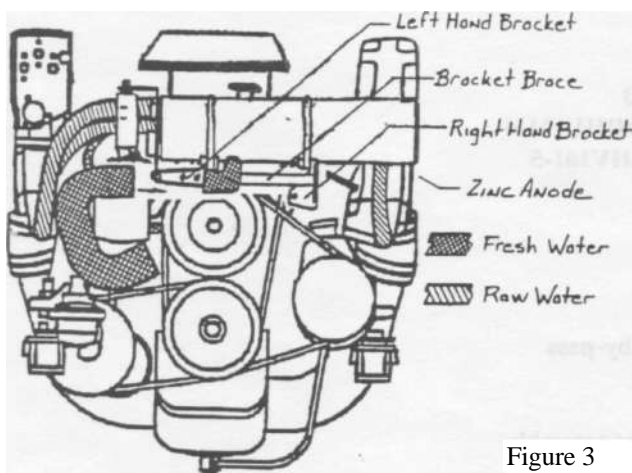

Figure 3
10. Install the heat exchanger bracket brace using the (2) 3/8" X 1-1/4" bolts, flat and lock washers for the left side and (1) 3/8" X 1" bolt, flat and lock washer for the right side. Tighten bracket bolts and brace bolts firmly and evenly.
11. Position (1) #64 hose clamp over left end of heat exchanger, just inside the 1" raw water inlet. Position (1) #64 hose clamp just to the left of the fill cap. Keep both clamps loose. Set heat exchanger on brackets with left end tight against electric fuel pump bracket. Heat exchanger should sit level (Figure 3). Tighten both hose clamps firmly around heat exchanger and bracket saddles.
12. Use the original hose clamps to secure the 1" raw water hose to the spud located on the back, left end of the heat exchanger. Use original hose clamps to secure 1-1/2" fresh water hose to the spud on the front, left end of heat exchanger (figure 3).
13. Use the (2) #24 hose clamps to secure the 1-1/2" X 17" piece of flex hose between the 1-1/2"
spud on the back, right end of heat exchanger and the 1-1/2" spud on the thermostat housing. Tighten both clamps firmly (Figure 3).